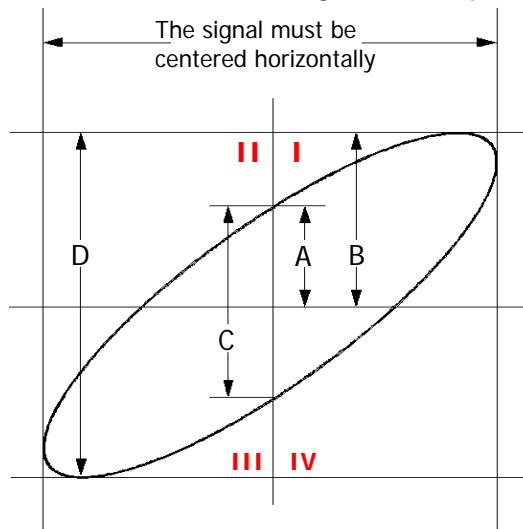

Figure 3-2 Measurement Schematic Diagram of Phase Deviation
5. Observe the measurement result shown in the figure above. According to the measurement schematic diagram of the phase deviation (as shown in Figure 3-2),  $A/B (C/D) = 1$ . Thus, the phase deviation angle  $\theta=\pm\arcsin 1=90^\circ$ .